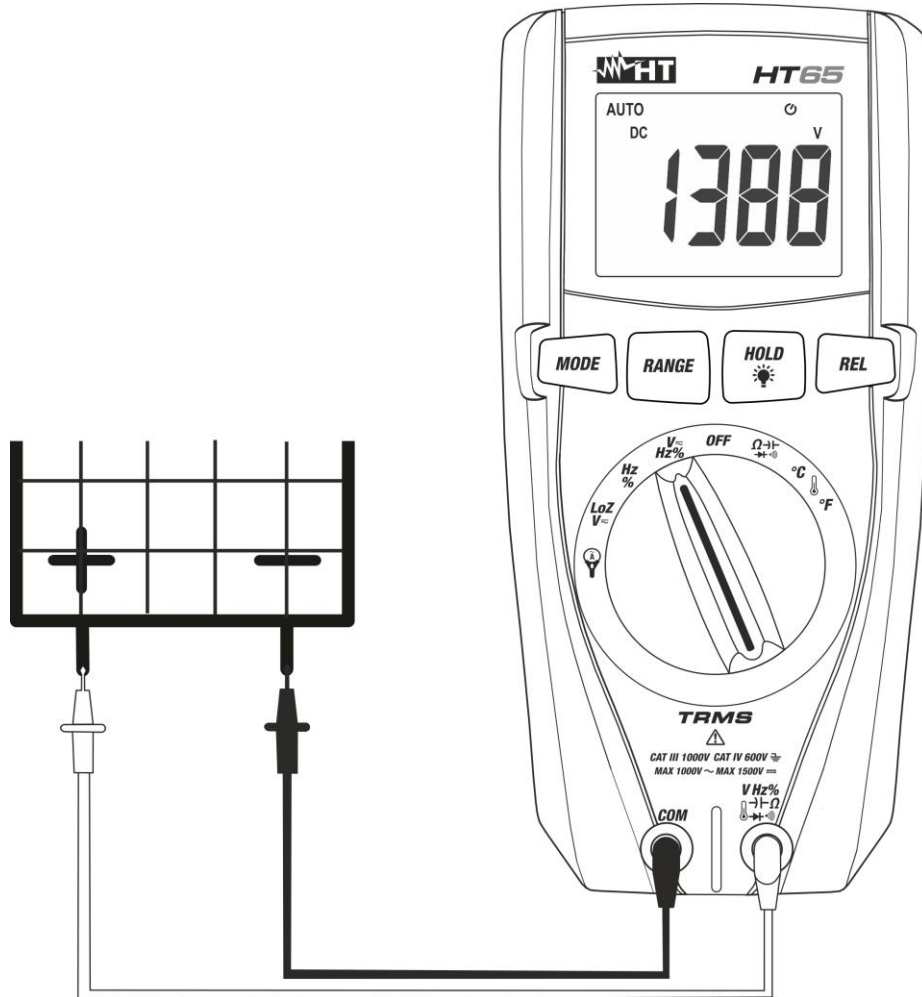
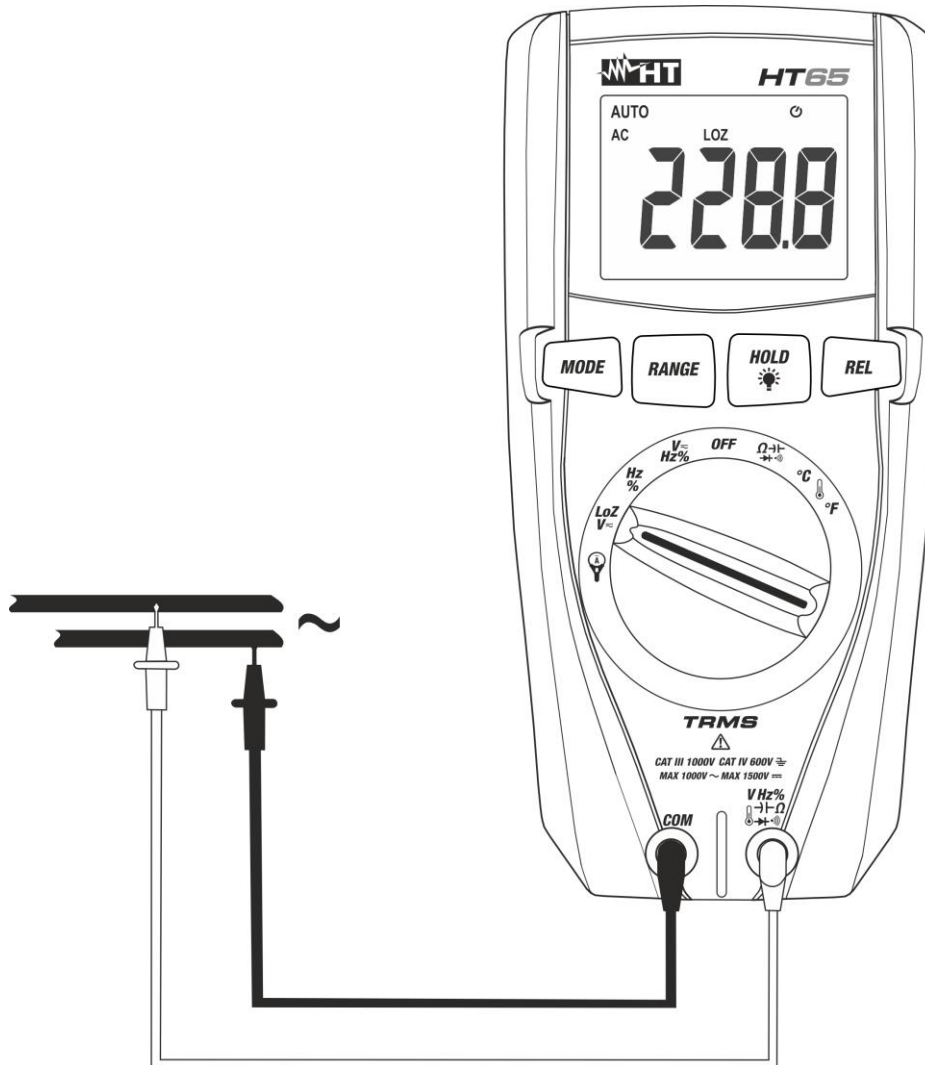

Fig. 2: Use of the instrument for DC Voltage measurement
Fig. 4: Use of the instrument for AC/DC voltage measurement with low impedance (LoZ)
4. Position the red lead and the black lead respectively in the spots with positive and negative potential of the circuit to be measured (see Fig. 2). The display shows the value of voltage.
6. When symbol "-" appears on the instrument's display, it means that voltage has the opposite direction with respect to the connection in Fig. 2.
4. Position the red lead and the black lead respectively in the desired spots of the circuit to be measured (see Fig. 4) or in the spots with positive and negative potential of the circuit to be measured (see Fig. 2). The display shows the value of voltage.
6. When symbol "-" appears on the instrument's display, it means that voltage has the opposite direction with respect to the connection in Fig. 2